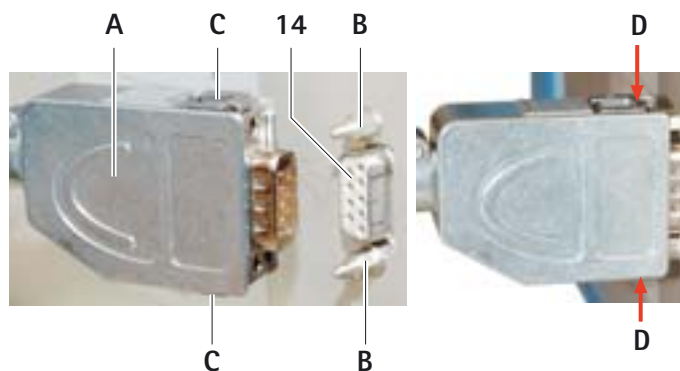

Fig. 11
- To connect the foot control connector **A** to control unit **1**: Fully plug in the foot control connector **A** at the connection socket for foot control **14** (in rear panel of the unit). Locking clips **C** audibly engage in locking pins **B**, see Fig. 11.